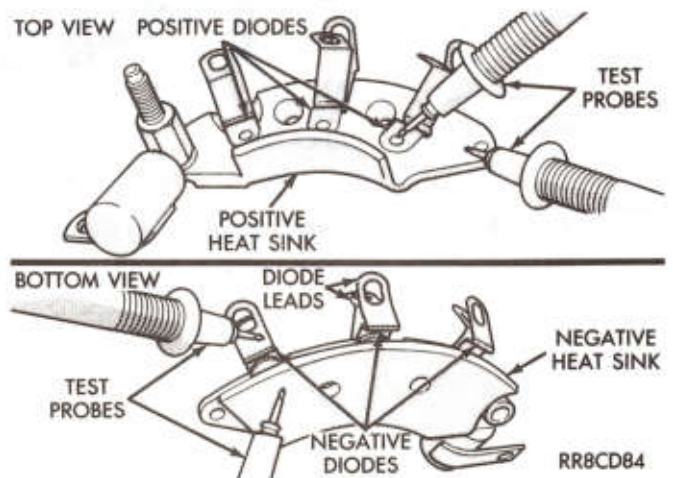

Fig. 6—Rectifier Tests
stator leads to the frame; it should test open (Fig. 6).
(1) Separate the positive diode leads from the negative diode leads.
(2) Using a analog ohmmeter, test for continuity from the positive heat sink to each of the positive diode leads. Then reverse the test probes and repeat the test (Fig. 6). The result should show continuity in one direction only.
(3) Test for continuity from the negative heat sink to each of the negative diode leads. Then reverse the test probes and repeat test (Fig. 6). The result should show continuity in one direction only.